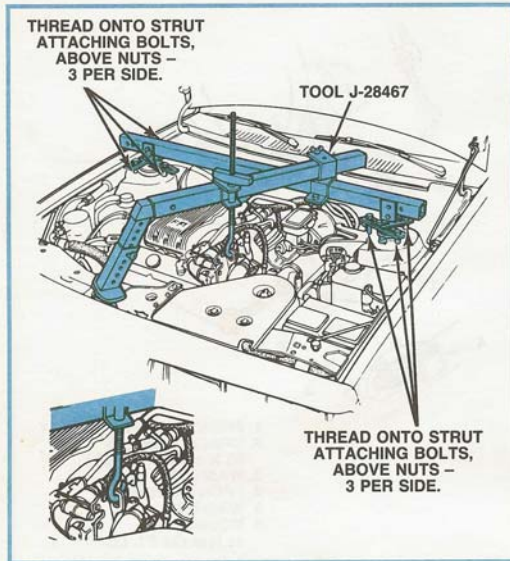

Figure 4-18, Engine Support Fixture.
2. Install J-28467 engine support fixture. Attach fixture hook to engine lift ring and raise engine enough to take the pressure off the mounts (Figure 4-18).
See Figures 4-18 and 4-19 ...